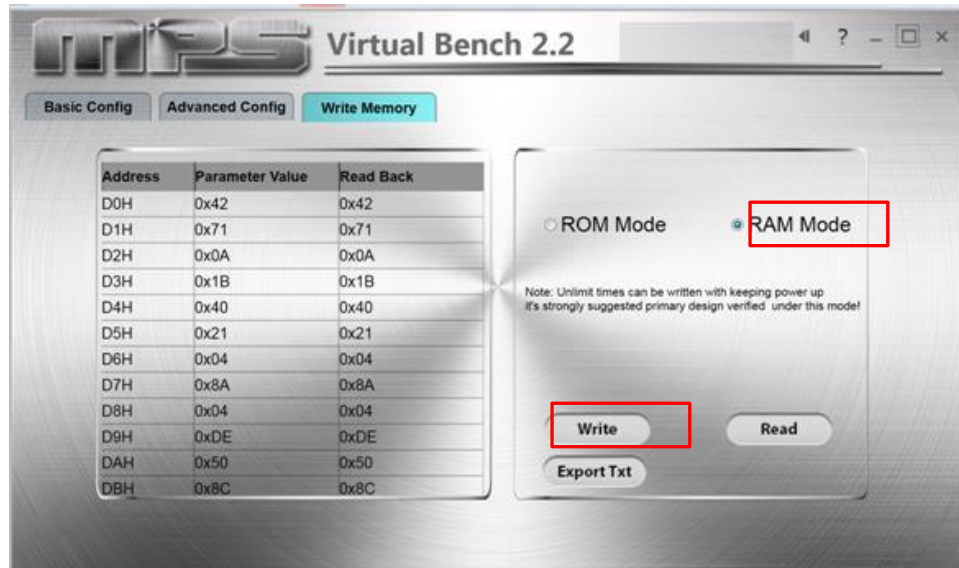
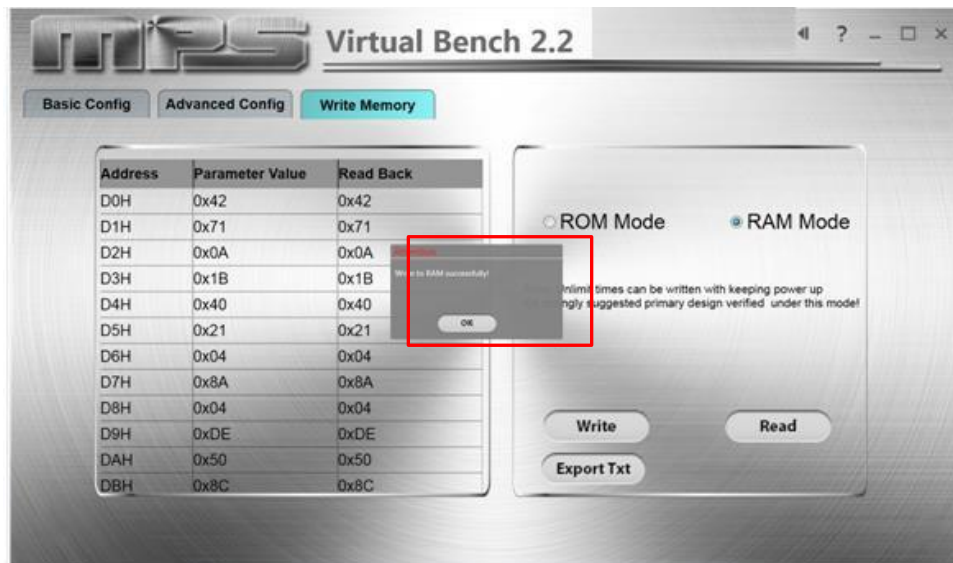

Figure 10: RAM Mode Write Version
Figure 11: RAM Mode Write Successfully
- Click the “RAM Mode” button and then click the “write” button to update values (see Figure 10). A successful writing is shown in Figure 11. If the writing is wrong, check your connection and restart your writing.